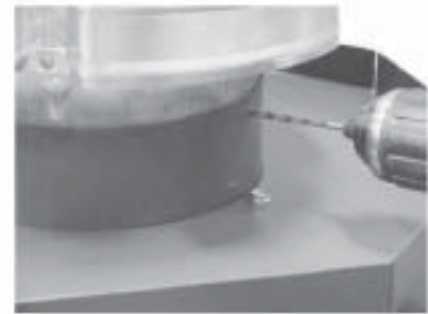

Fig. 5
- Slide the vent cap down into the vent collar as shown in **Fig. 5**.